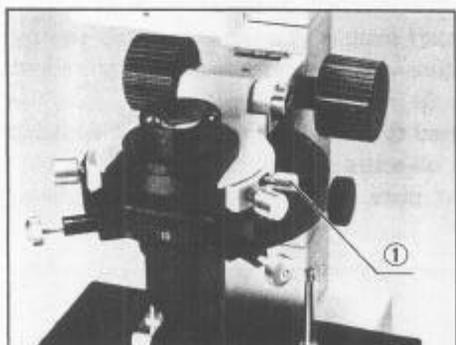

Fig. 9
Insert the circular dovetail of the condenser into the condenser holder, and clamp with knob ①. (Fig. 9)